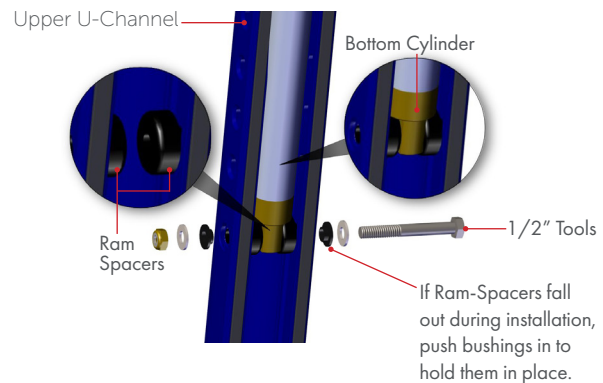

Figure 6
**STEP 12** Re-attach the **bottom cylinder** to the upper u-channel. **FIG 6**
**STEP 13** Reinstall the (2) plastic shrouds using the (8) phillips head screws.